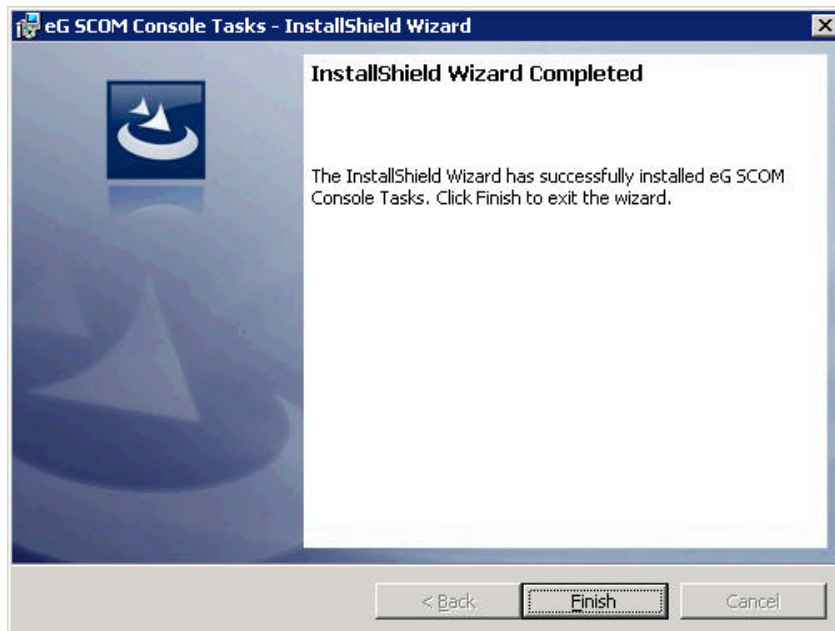

Figure 3.23: Completing the installation
7. Upon completion of installation, click the **Finish** button in Figure 3.23.